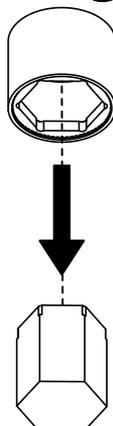

Fig. 12.8
- Fig. 12.8 Slide the spacer assembly onto a piece of hexagon bar, spacer side down
- Fig. 12.8 Slide the spacer assembly onto a piece of hexagon bar, spacer side down.